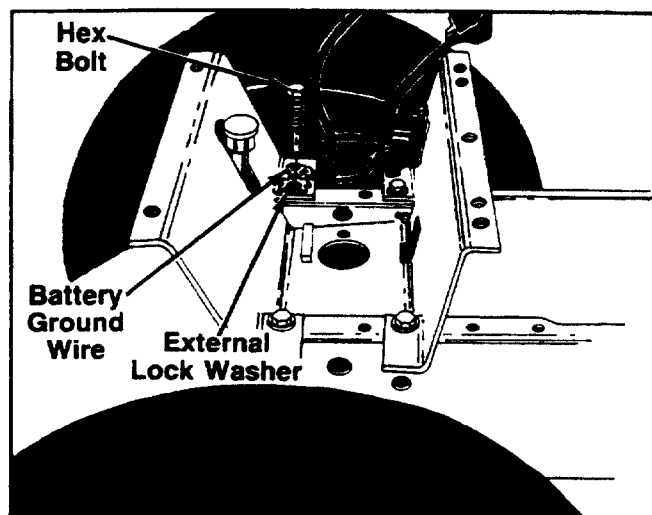

FIGURE 10.
20. Upon reassembly of battery tray (**IN STEP 53**) make certain the battery ground wire is grounded to battery tray properly with external lock washer. See figure 10.